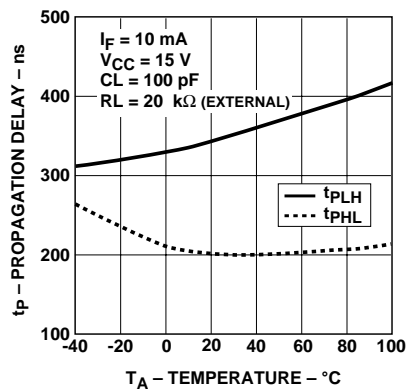

Figure 12. Propagation Delay with External 20 kΩ RL vs. Temperature.
- Due to tolerance of the internal resistor, and since propagation delay is dependent on the load resistor value, performance can be improved by using an external 20 k Ω 1% load resistor. For more information on how propagation delay varies with load resistance, see Figure 12.